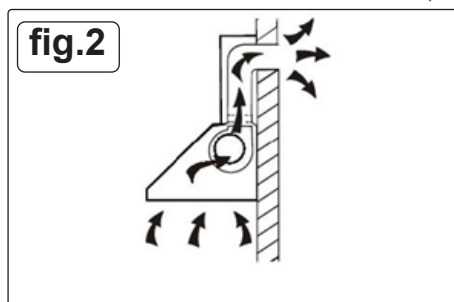

fig.2
- If you have an outlet to the outside, your cooker hood can be connected as per fig.2 by means of an extraction duct (enamel, aluminium, flexible pipe or non-flammable material with an interior diameter of 150mm).